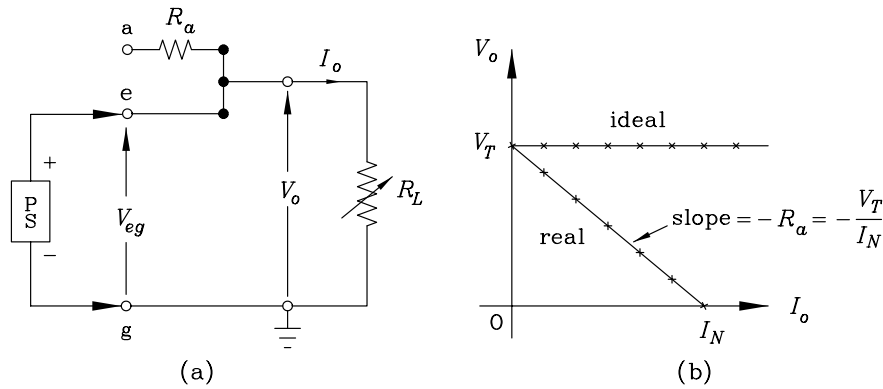

Figure 2: Illustrating the voltage source measurements.
Figure 2(a) shows how we will check this. The *load resistor*, R_L , is shown as *variable* (indicated by the arrow) so that it can be changed to draw different currents from the supply, while we measure the voltage across it. In practice, we will use discrete values of R_L , given by R_1 to R_5 .
- (6) Repeat procedure (3).
- (7) Using the same axes as for the earlier graph, plot V_o as a function of I_o . Confirm that the graph you have just plotted is what you would expect, i.e., the current-voltage characteristic of a voltage source having an internal resistance of R_a (Figure 2(b)). Your plot should be similar to the one shown as “real” in Figure 2(b).